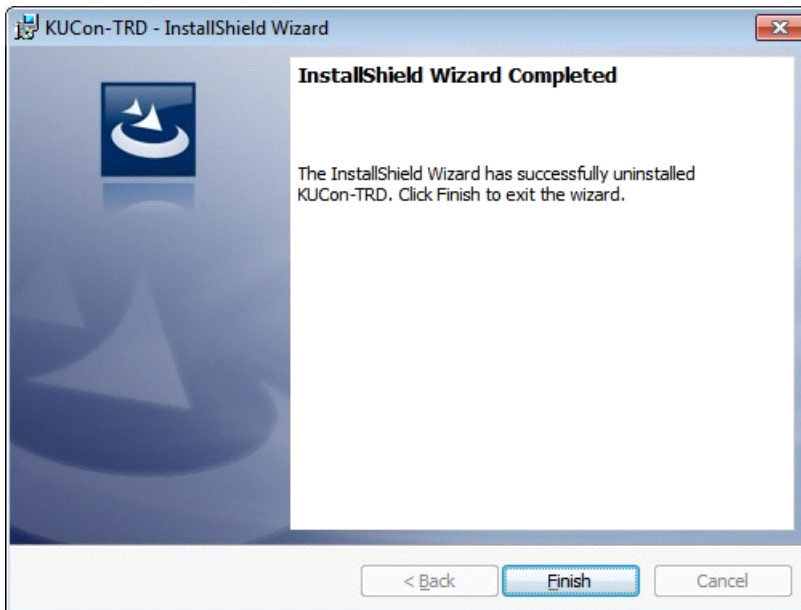

Figure 3-23: Finish InstallShield Wizard
5. Click **Finish** to exit the wizard (see Figure 3-23).